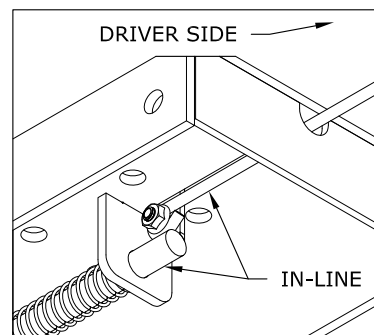

FIGURE F1: Center Section
1. Install the latch pin release handle by inserting it through the slot in the end of the center section on the driver's side of the truck. Align the handle eyelet with the square hole in the latch pin so the handle is in line with the latch as shown in figure F1.